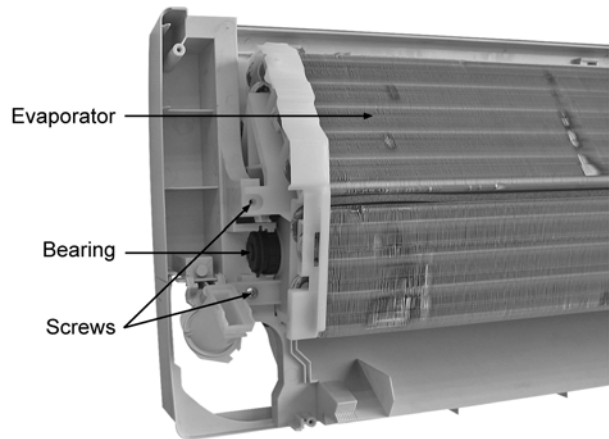

Fig. 13
20. Remove the Bearing. (Fig. 13)
21. Remove the 2 screws at the left of the Evaporator. (Fig. 13)